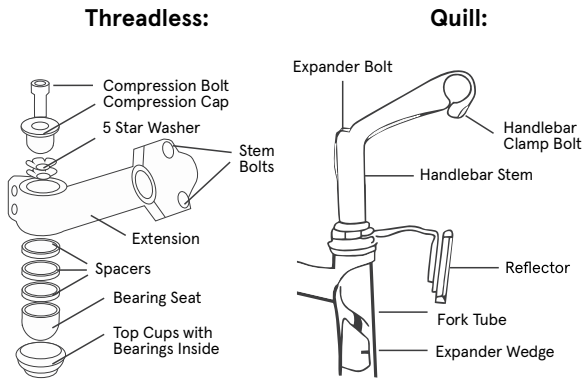

Fig. 12
Step 4: Handlebar & Handlebar Stem Assembly (Refer to Figs. 12 & 13)
Your e-bike may be fitted with an adjustable stem, a standard quill stem, or a threadless stem **(Refer to Fig. 12)**. Regardless of stem type, always check that all the bolts are tight before riding. Respect the stem type and follow the instruction below: